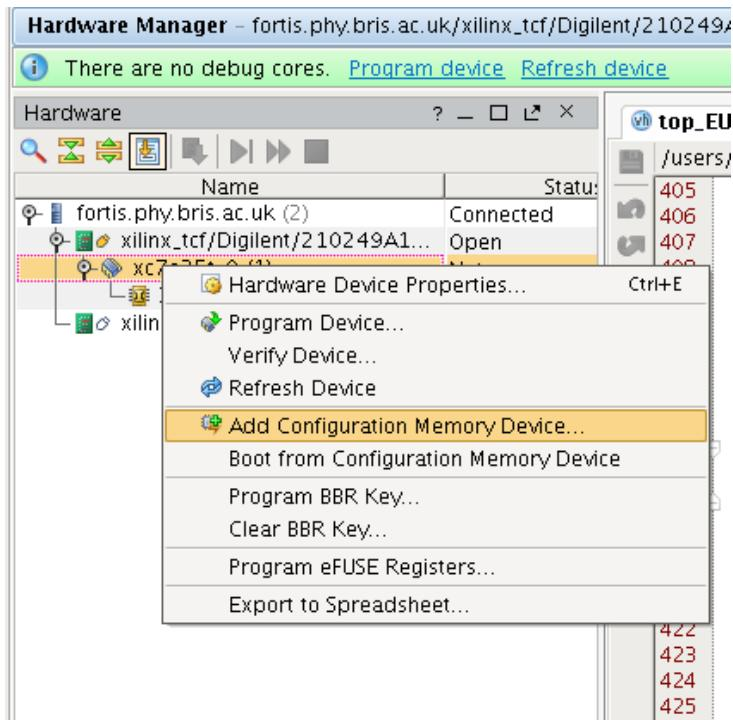
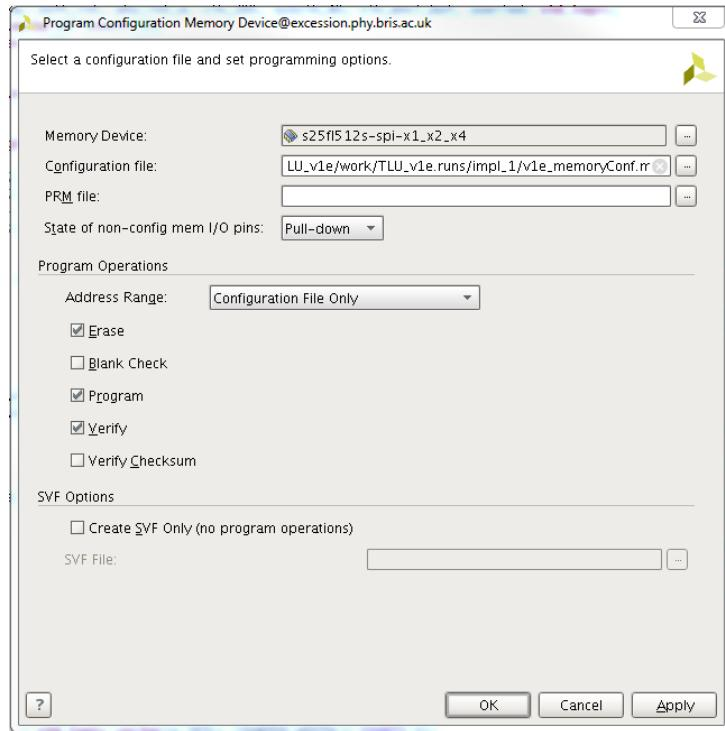

Figure 1.4: Program interface.
Figure 1.5: EEPROM interface. The options shown in the picture are suitable to configure the device correctly.
4. Right click on the **FPGA** (typically xc7...) and select Program device (see figure 1.4)
The procedure to write a permanent program in the **EEPROM** is very similar to the one followed to write a bit stream file, with the exception that the user should select Add configuration memory device in the options, as shown in figure 1.4. This will open a new window, shown in figure 1.5, from which it is possible to indicate the file to use (with extension .mcr). Make sure that the options are set as shown in figure 1.5.